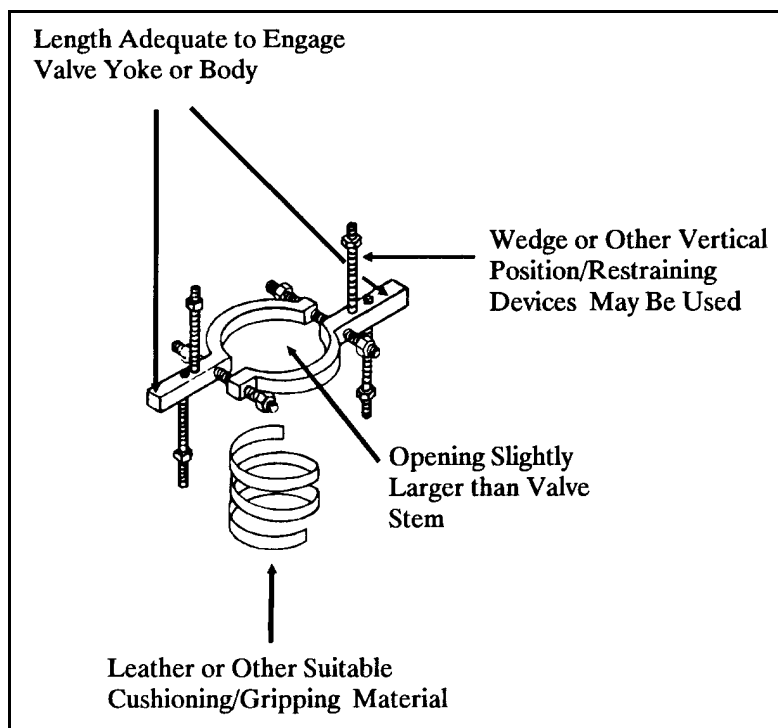

Figure 4-9 Typical Stem Clamping Device
14. Manually position the valve to the full open or full closed position, or as system conditions require. Install a valve stem clamp (Figure 4-9), if required, to lock the valve in the desired position. Record position.